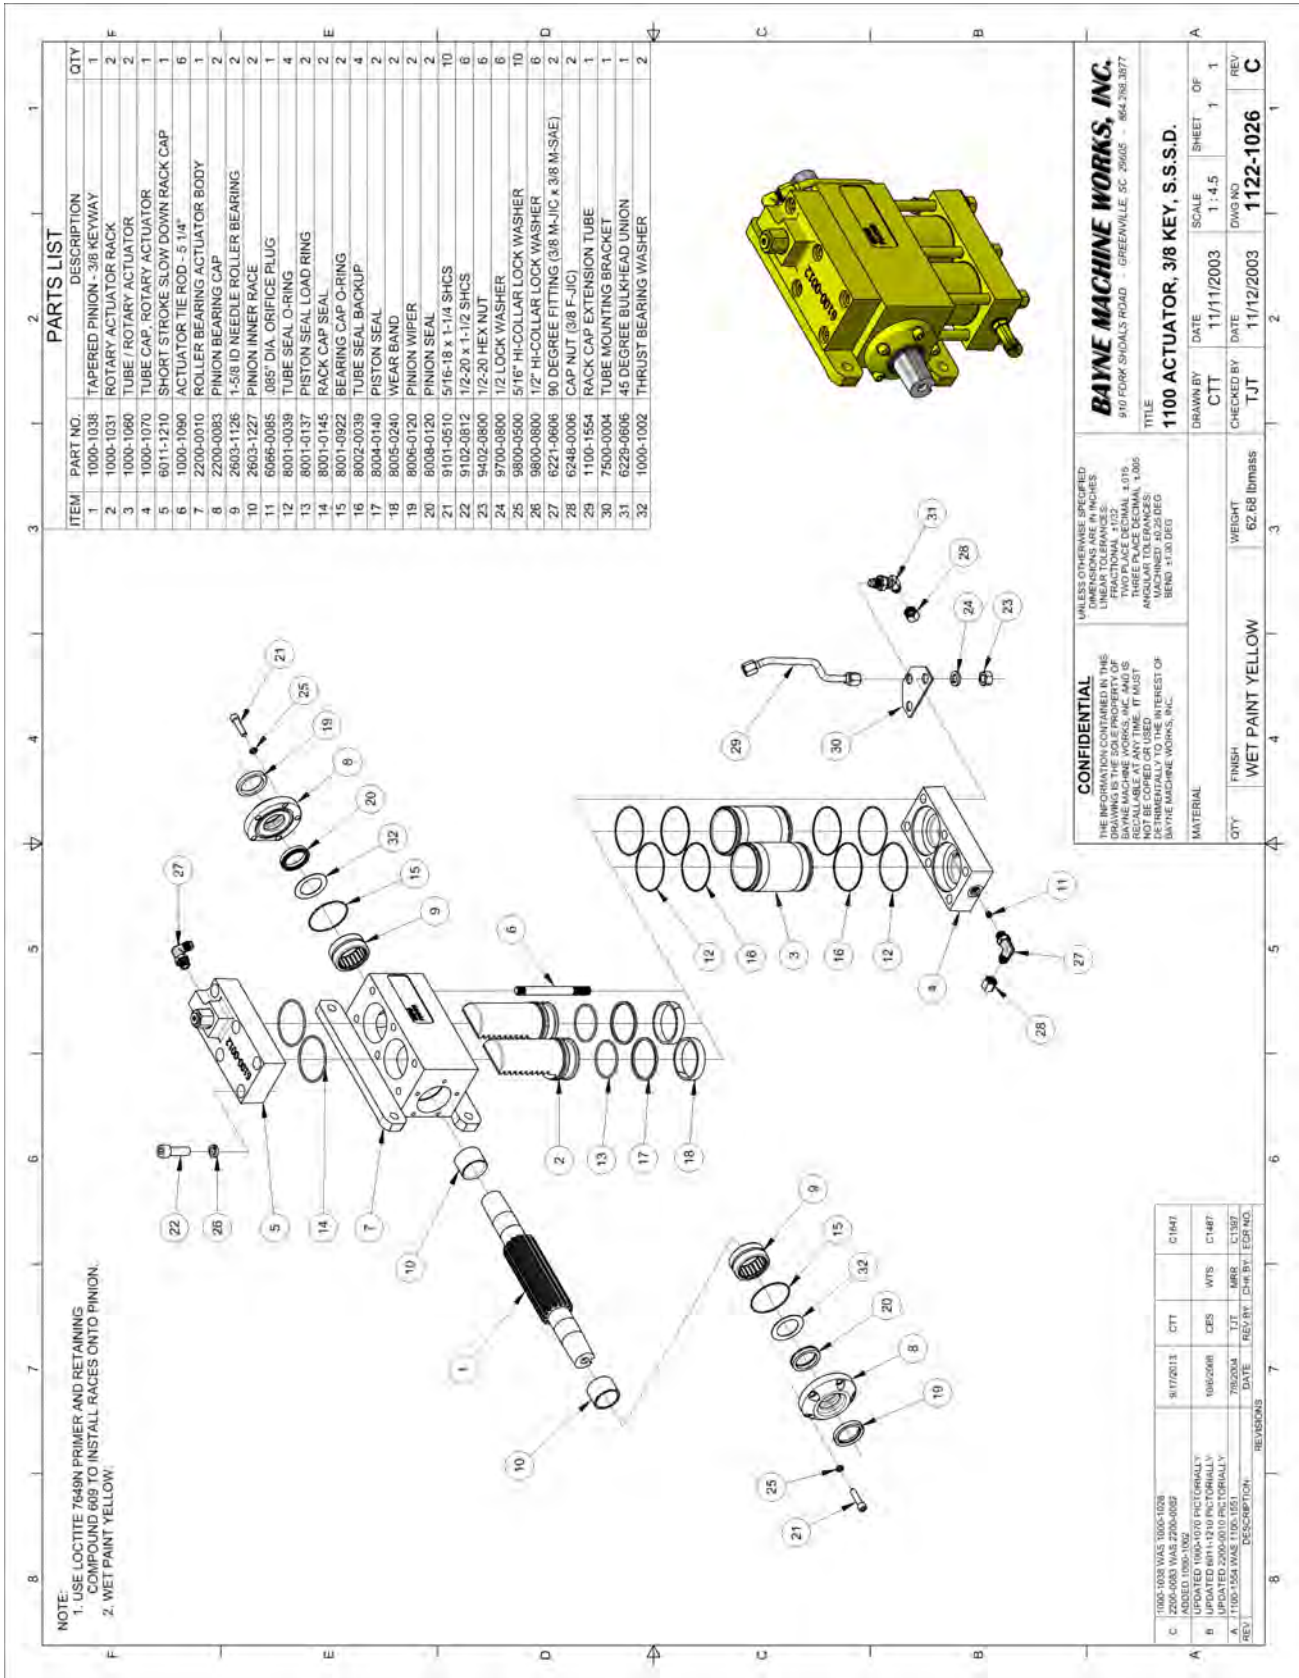

Figure C-13
2. Install the tube seal (12) (Figure C-2) and "square" tube seal backup (16) on each end of the actuator tubes (3) (Figure C-13). Be sure that the "square" tube seal backup ring is toward the inside of the tubes at both ends as shown. Press all rings firmly into the grooves. Repeat this procedure for the other tube.
5. Coat the head portion of the racks (2) (Figure C-13) with STP Oil Treatment. Install the racks, head portion up with the teeth facing the flanges of the actuator body, into the dual set of bores in the body. Simultaneously slide the racks into the bores so that the racks mesh with the pinion in the same position. Rotate the pinion shaft to engage the racks into the pinion.
7. Coat one end of the actuator tubes (3) (Figure C-13) around the seal area with STP Oil Treatment as shown in Figure C-7. Using a rubber mallet, drive the coated end of the tube onto the exposed rack until the tube end seats in the actuator body, making sure that the seals remain in place as the tube enters the counter-bore. Repeat this procedure for the other side.
8. Install the six tie rod studs (6) (Figure C-13) by screwing the short threaded end into the actuator body. Hand tighten only at this time (the torque needed will be applied later in the procedure).
9. Place the tube cap (4) (Figure C-13) on the table. Coat the sides of the two bores in the tube cap with STP Oil Treatment. Install the cap over the tubes and rod studs with the oil port positioned to the left as shown in Figure C-13. Using a rubber mallet, tap the tube cap over the tubes until the tubes seat in the cap, making sure that the seals remain in place.
10. Place the tube mounting bracket (30) (Figure C-13) over the two end rod studs opposite the oil port in the tube cap as shown in Figure C-13.
11. Install the hex nuts (23) (Figure C-13) and lock washers (24) on the tie rod studs. Torque the nuts to 50 ft-lb. in the sequence shown in Figure C-8.
12. Place the rack cap (5) (Figure C-13) bore side up on the table and coat the edge of each bore with STP Oil Treatment. Install the rack cap seals (14) (Figure C-9) in the rack cap.
13. Reposition the actuator on the table mounting flanges down, and the lower tubes facing away from the assembler. Rotate the pinion shaft to allow 1" of the rack to protrude from the top of the actuator body. Install the rack cap with the oil port positioned to the left hand side of the actuator opposite the bottom oil port located in the tube cap as shown in Figure C-13. Attach the rack cap to the actuator body using the socket head bolts (22) (Figure C-13) and lock washers (26). Torque the bolts to 90 ft-lb. in the sequence shown in Figure C-10.
15. Re-center the actuator pinion in the actuator body by tapping on one end of the shaft with a rubber mallet. Install the roller bearing (9) (Figure C-13), over the pinion shaft and inner race, and into the actuator body. Repeat this procedure for the other bearing.
18. Wrap masking tape or electrical tape around the pinion to cover the edges at the keyway. Slide the bearing cap assembly over the pinion shaft with the bearing cap seal facing toward the actuator body and the flat surface of the flange shown in Figure C-16 facing toward the actuator mounting flanges. Press against the bearing cap until the shoulder seats against the actuator body, making sure that the seals remain in place. Install the bearing cap bolts (21) (Figure C-13) and lock washers (25). Hand tighten only at this time. Repeat this procedure for other bearing cap. Document Number: 1900-0187 Issue Date: 01/22/14 Revision No: 004 Page: 26 of 53
20. Install the 90° fitting (27) (Figure C-13) into the oil port on the side of the rack cap (5). Hand tighten only at this time.
21. Install the 45° bulk-head fitting (31) (Figure C-13) up through the hole in the tube mounting bracket (30) bolted to the tube cap as shown in Figure C-13. The 45° end must be pointing down away from the rack cap (5) and back toward the mounting flanges on the actuator body. Hand tighten only at this time.
22. Install the rack cap extension tube assembly (29) (Figure C-13) between the 90° fitting in the rack cap and the 45° fitting in the tube mounting bracket as shown in Figure C-13. Tighten all connections.
23. Install the orifice plug (11) (Figure C-13) into the oil port on the side of the tube cap (4), and install the 90° fitting (27) into the oil port over the orifice plug as shown in Figure C-13. Turn the fitting so that it points down away from the rack cap (5) and back toward the mounting flanges on the actuator body and tighten.
24. Install the cap nuts (28) (Figure C-13) onto the open fittings to prevent contamination of the unit until the hoses are installed.